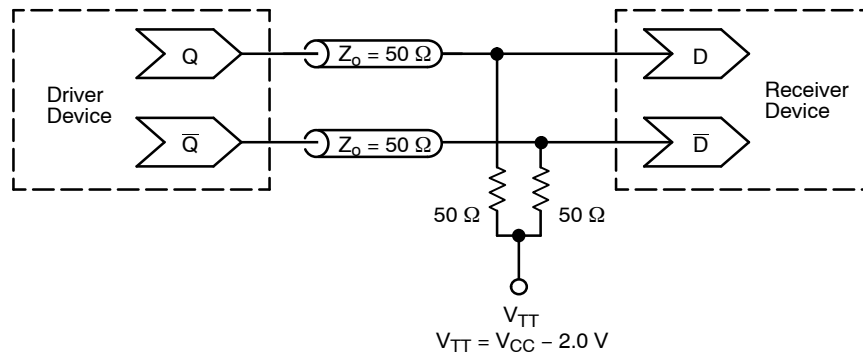
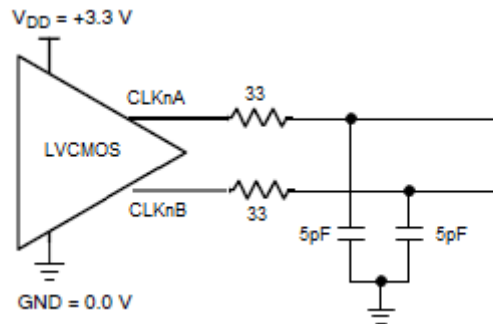

Figure 9. Typical Termination for LVPECL Output Driver and Device Evaluation (See Application Note AND8020/D – Termination of ECL Logic Devices.)
Figure 11. Typical LVCMOS Output Test Setup for Evaluation
13. Measured by using a 25 MHz crystal as clock source. All LVPECL outputs are loaded with an external $R_L = 50\ \Omega$ to $V_{DDO} - 2\text{ V}$ (Figure 9); LVCMOS outputs loaded with $R_S = 33\ \Omega$, $C_L = 5\text{ pF}$, 5" 50 Ω trace, (Figure 11).